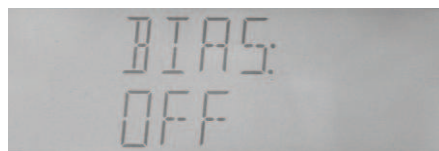

Figure 4-14 Bias selection
- d) Select "BIAS" through **【◀】** or **【▶】** key, as shown in Figure4-14.